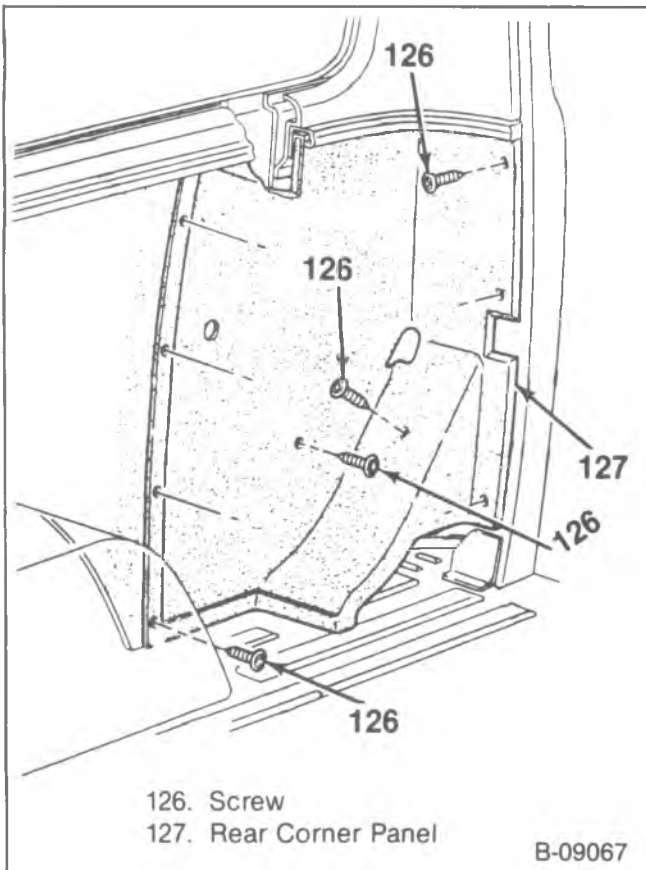

Figure 41—Rear Corner Panel
14. Body side trim rear corner panel screws and the panel (figure 41).
1. Body side trim rear panel and screws (figure 41).